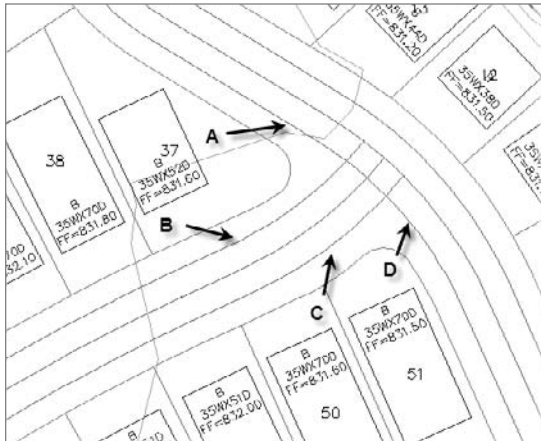

Figure 12.9
11. Use an end snap and pick the end of feature line C. Your drawing should look like Figure 12.9.